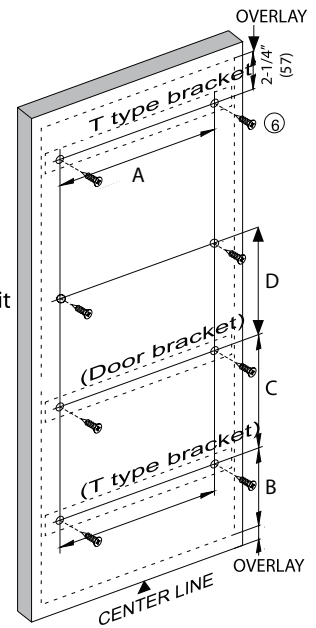

fig. 9
11) To calculate overlay measure the door and then measure the cabinet opening. $\text{Overlay} = \text{door width} - \text{cabinet opening} \div 2$. For example; the door is $12\frac{1}{2}$ " wide, the opening is 12". $12\frac{1}{2} - 12 = \frac{1}{2}$ ", then divide by 2. The overlay is $\frac{1}{4}$ ". Refer to figure 9.
13) At this point, lay your door on a flat surface and mark 6 or 8 pilot hole locations based on figure 9. Dimension "B" for face frame cabinet is $4\frac{1}{4}$ " [108mm]. See the table for dimensions "C" and "D". Use an $\frac{1}{8}$ " drill bit pre-drill pilot holes.